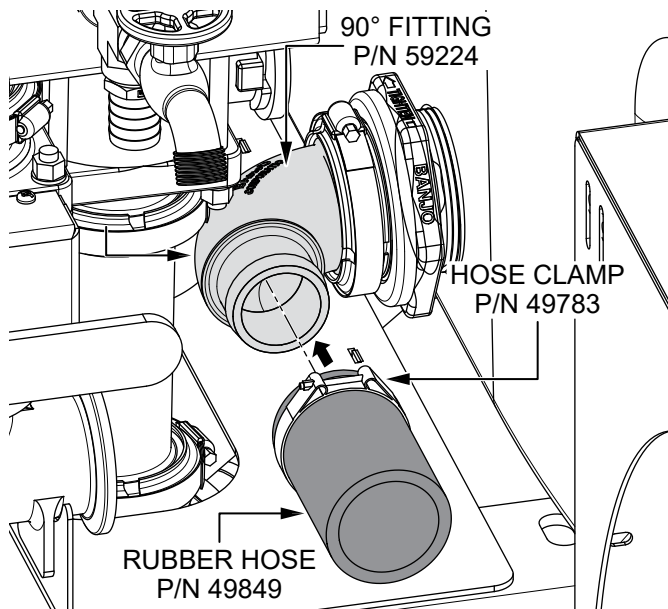

Figure 14. Install Rubber Hose Onto 90-Degree Fitting
- Place a **hose clamp (P/N 49783)** onto one end of the new **rubber hose (P/N 49849)**. See Figure 14.
- Place the end of the **rubber hose (P/N 49849)** with the **hose clamp (P/N 49783)** onto the **90-degree fitting (P/N 59224)**. **DO NOT** tighten the hose clamp at this time. See Figure 14.